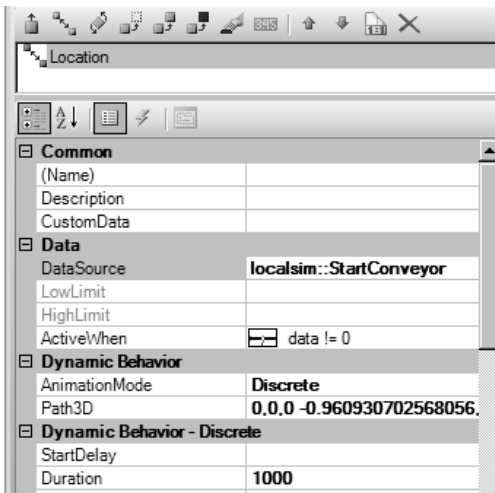

Figure L6.10 - Location Dynamics Properties
7. For each of the bottles, add a Location dynamic that moves each bottle to the next bottle’s position. For all of these dynamics, you should use the same simulated Data Source (let’s call it “StartConveyor”). The Animation mode should be Discrete and the Duration should be set to 1000 milliseconds. Figure L6.10 shows the properties of the Location dynamics for one of the bottles. All bottles should have similar dynamic properties.